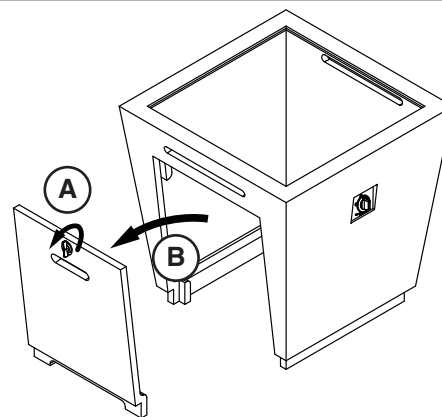

Fig. 20-2 Remove door
2. Remove the storage door by first turning the door handle counter-clockwise, then carefully pulling the door outward (see Fig. 20-2). Store in a safe location.